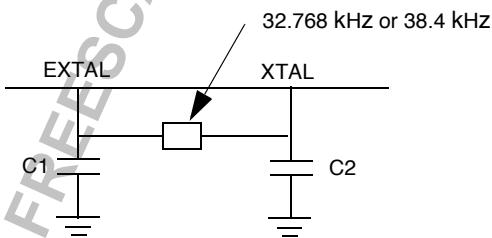

Figure 2-2. Typical Crystal Connection
- EXTAL—External Clock/Crystal. This input signal connects to the external low frequency crystal. The MC68VZ328 microprocessor supports both a 32.768 kHz and a 38.4 kHz crystal frequency. For a 32.768 kHz input, the internal phase-locked loop generates a PLLCLK signal that passes through two prescalers, and the resulting output (DMACLK and SYSCLK) clock is 16.58 MHz. Figure 2-2 illustrates how a crystal is usually connected to the MC68VZ328. For specific circuit design values, see Figure 4-2 on page 4-4.